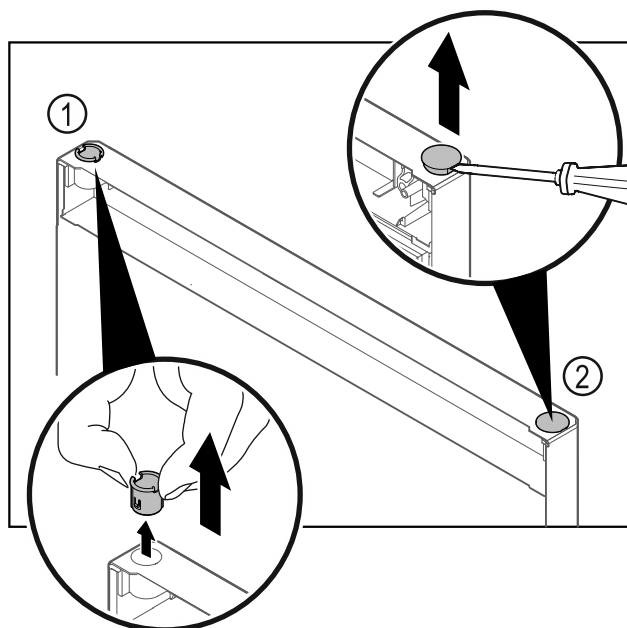

Fig. 27
- Pull out the hinge bushing Fig. 27 (1) with your fingers.
- Carefully lift the cover plug Fig. 27 (2) with a slotted screwdriver and pull it out.